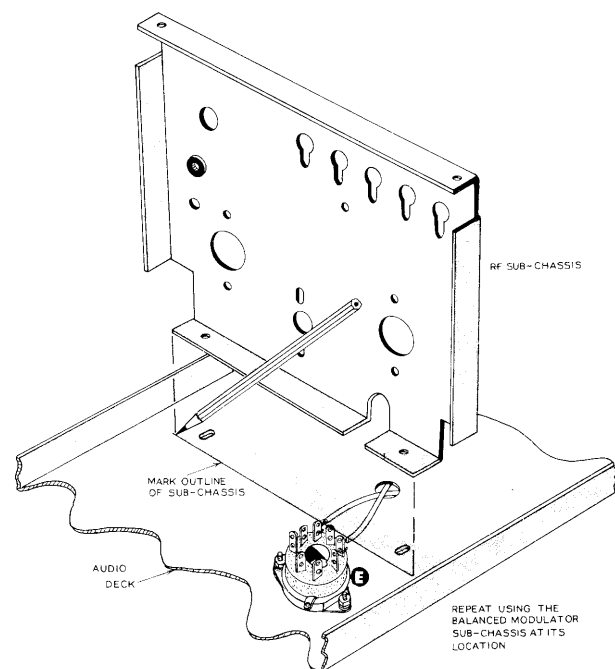

Figure 5
- ( ) Install the inter-stage transformer stamped 51-37 at T4. The black and the green wires are inserted in the opening nearest the octal socket (E). The red and blue wires are placed through the remaining opening; 6-32 hardware is used to secure. Install a #6 solder lug under the nut at the end nearest the chassis flange instead of the usual lockwasher.
- (✓) Connect the black wire of T4 to E7 (NS). Dress as shown in Pictorial 2.
- (✓) Connect the green wire of T4 to E5 (NS). Dress as shown.
- (✓) Before advancing further, temporarily select the balanced modulator chassis and the RF chassis. Hold them in place on the audio deck and, with a pencil, draw an outline of the chassis on the inside of the audio deck as shown in Figure 5. See Figure 13, Page 38 for parts identification and placement. From this point on, do not allow any of the wiring in these outlines, except the green and black wires from T4. Remove the two sub chassis and lay them aside. Proceed with deck wiring.